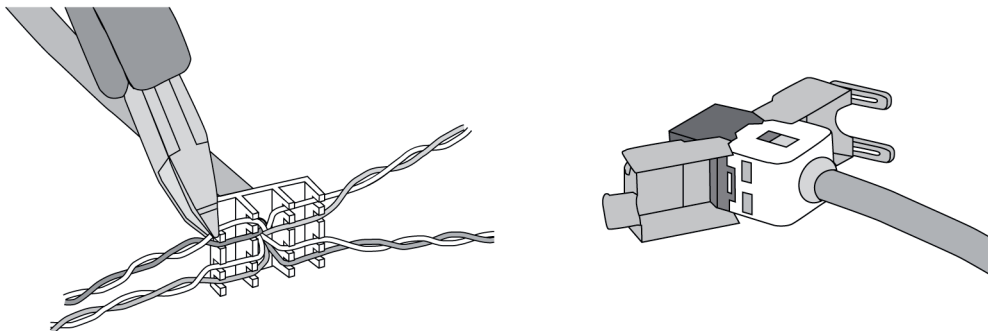

Figure 7: Connection of adapter connector to Ethernet cable
- Connect Ethernet cable to the Ethernet adapter plug. To do this, strip the Ethernet wires, do not skin, and insert into the cover of the adapter plug. Shorten any wires that are jutting out and push the cover onto the adapter plug in the correct position (Figure 7).
- Connect the supplied Ethernet adapter cable to the terminal (32) and Ethernet adapter plug.